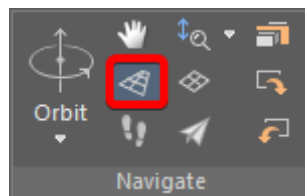

Fig. 30. Perspective view
8.4. For a more realistic view of the model, enable the **Perspective view** in the **View** tab (Fig. 30).